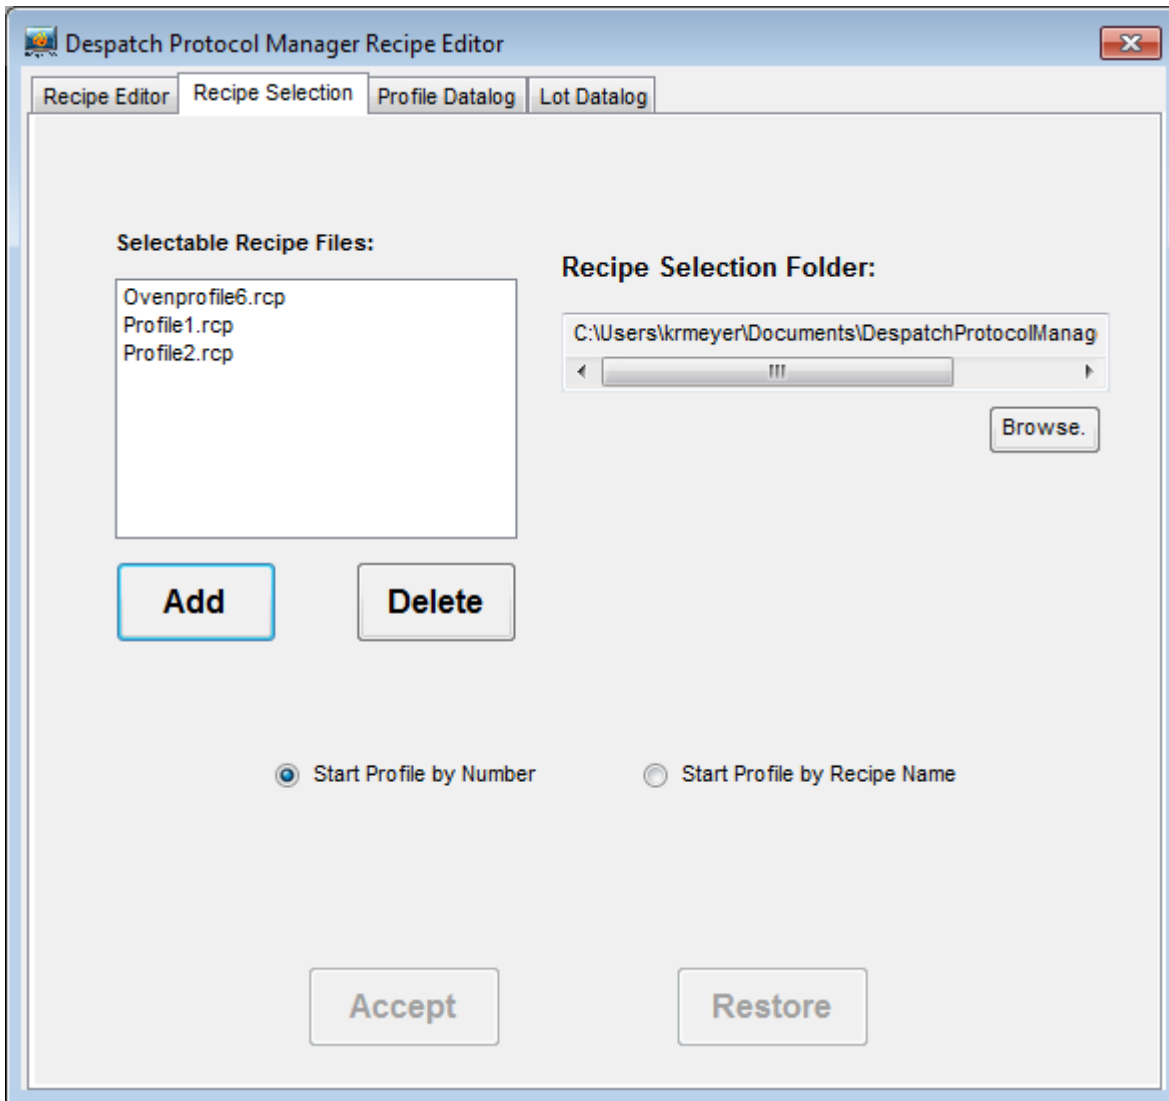

Figure 26: Recipe Selection Screen
2. Click on this tab and the **Recipe Selection** screen will pop up. See Figure 26.